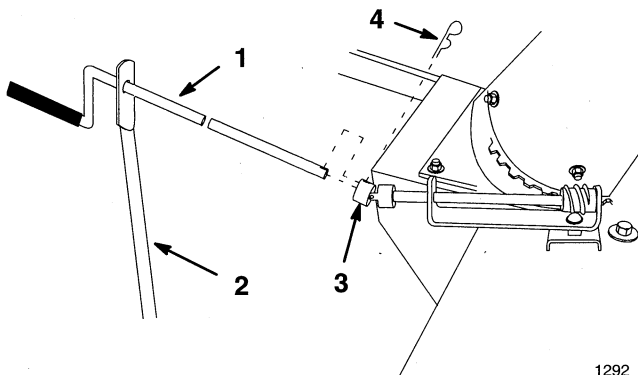

Figure 17
17. Slide crank handle through hole in support and secure handle to U-Joint with hairpin cotter (Fig. 17).